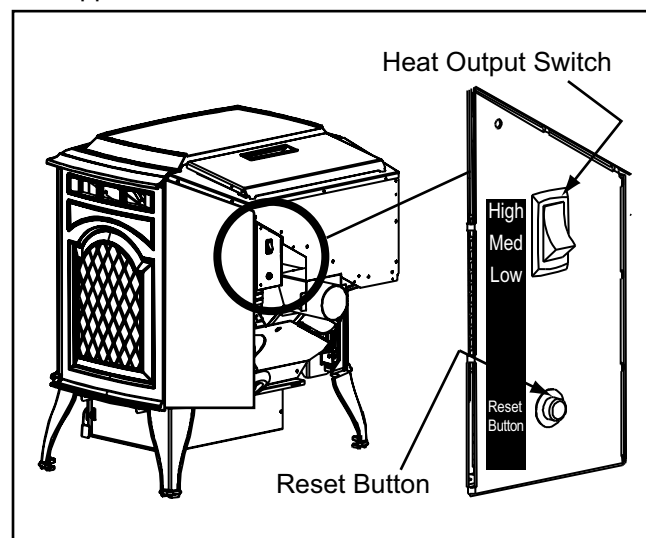
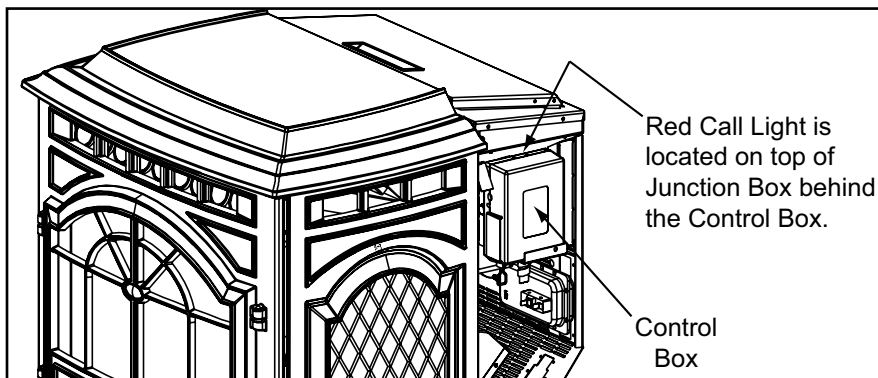

Figure 21.1
Figure 22.1
3. Locate the heat output control switch mounted on the back of the appliance in the upper right corner. **See Figure 21.1 on page 21.** Turn it to the "high" setting by pushing the top of the control switch in and then adjust the thermostat to its highest setting. Open the right side panel and the red call light located behind the control box will be on. **See Figure 22.1.** This indicates the thermostat is calling for heat.
3. Occasionally the appliance may run out of fuel and shut itself down. When this happens, the red call light will be on. **(See Figure 22.1, page 22)**. To restart it, fill the hopper and press the reset button. **(See Figure 21.1, page 21)**. When you press the reset button the red call light will go out. Release the button and the light will come back on. You should see a fire shortly. If not, follow the instructions on **page 22**, of "Starting Your First Fire".